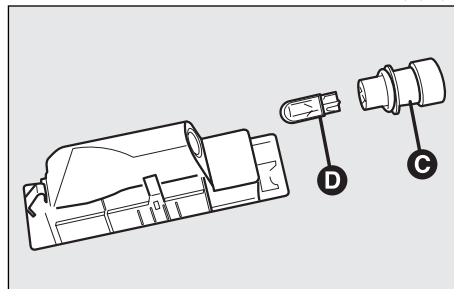

fig. 48
- remove the bulb holder (**C-fig. 48**) turning lightly and replace the bulb (**D-fig. 48**) which is pressure-fitted.
— Refit the bulb holder (**C-fig. 48**) turning gently.